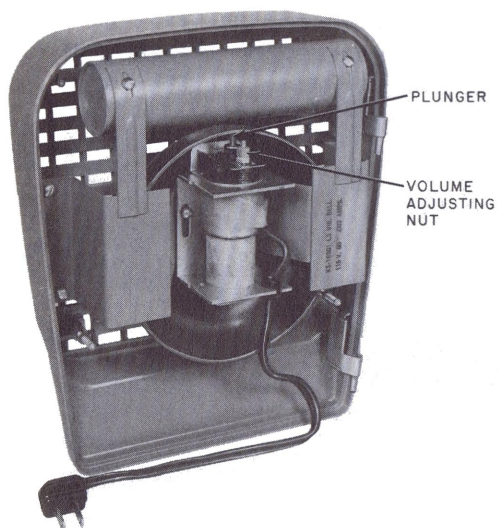

Fig. 9—KS-16301, List 3 Bell
3.09 Signals, KS-16301 (Fig. 9, 10, 11, 15, 16, 17, and 18)
- 5.01 The KS-16301, List 3 (vibrating bell) has a volume adjustment. On the Wheelock Signal Company type, the adjustment is a hexagonal nut on the rear of the signal (Fig. 9). The Sperti-Faraday Company type adjustment is on the back of the